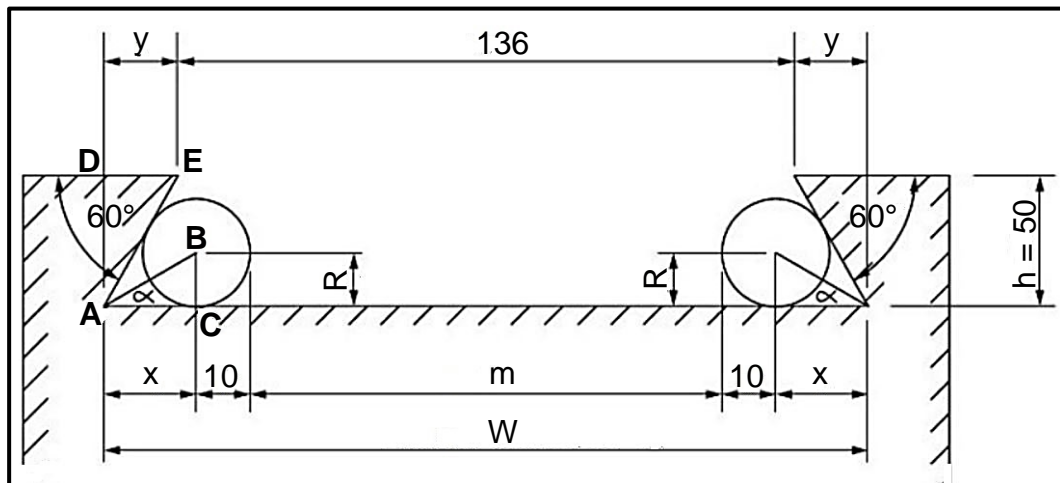

FIGURE 6.2
6.2 FIGURE 6.2 below shows an external dovetail component for a machine vice.